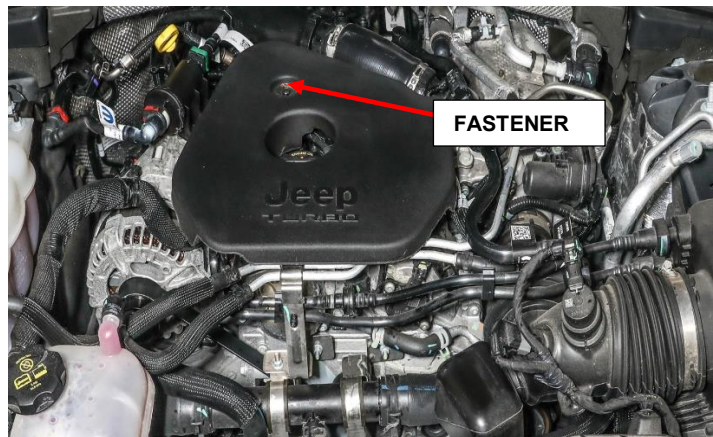

Figure 1 – Engine Cover
1. Remove the engine cover fastener, grasp the engine cover and remove cover (Figure 1).
33. Install the engine cover and fastener (Figure 1).